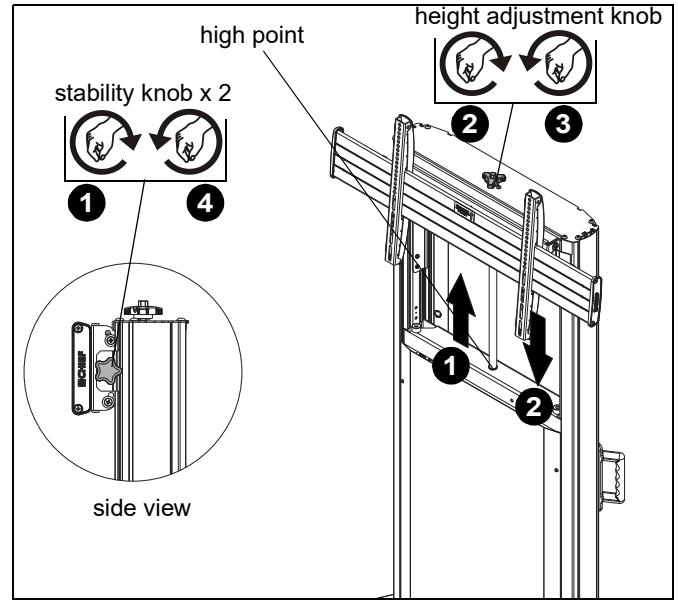

Figure 22
- Loosen two stability knobs on either side of head assembly. (See Figure 22)
- Turn height adjustment knob clockwise to raise display. (See Figure 22)
- Turn height adjustment knob counterclockwise to lower display. (See Figure 22)
- Tighten two stability knobs on either side of head assembly. (See Figure 22)